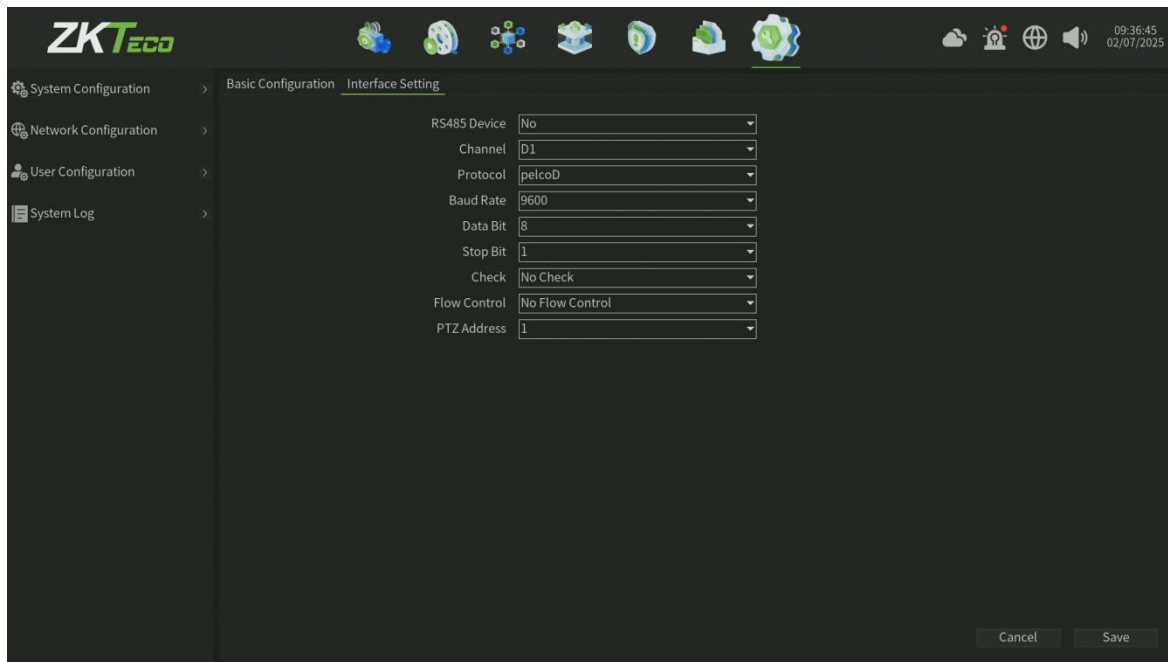

Figure 5.1 PTZ General Setting Interface
1. Enter the PTZ Setting interface, as shown in figure 5.1, click **System > System configuration > System Setting**.